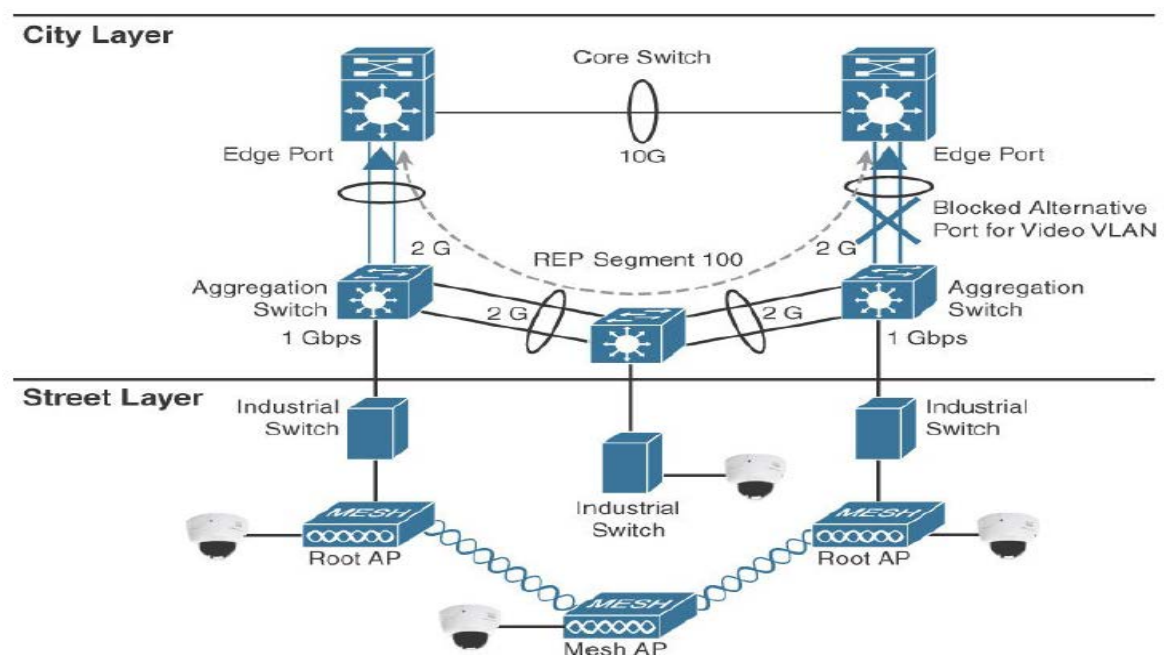

Figure 5.13 Street Layer Resiliency
- Figure 5.13 shows a common way of achieving this goal.